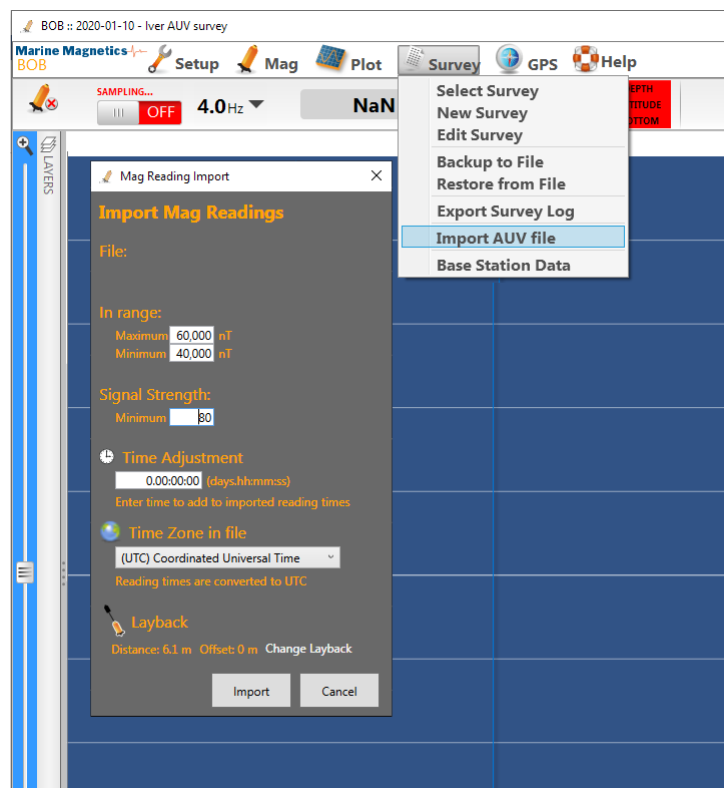

Figure 5-2 - To import AUV data while in the Main Window, use the menu Survey > Import AUV file.
- Using the Import AUV file option in the Survey menu, as seen in Figure 5-2